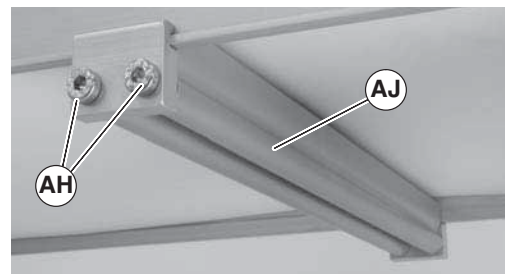

Figure 17
- Install roller assembly as shown (Figure 17, item AJ). Tighten screws (AH) to 60 in-lb (7 Nm).